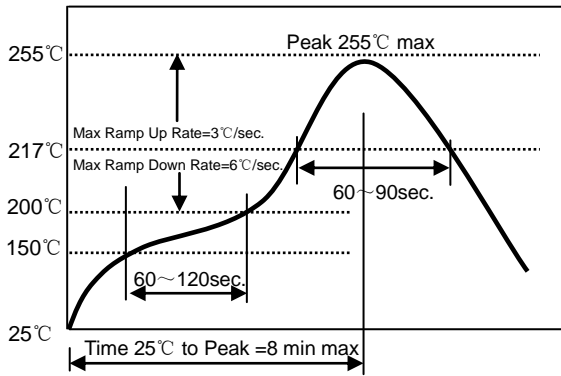

Fig. 8.1
- Please refer to **Fig. 8.1**